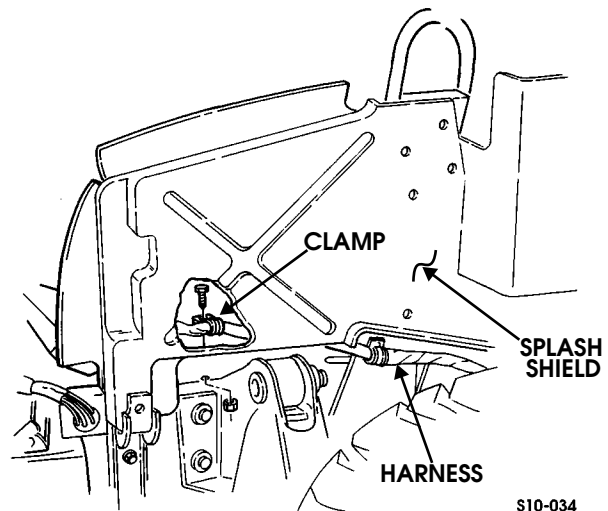

Figure 10-101: Wiring Harness Clamp Location
7. Remove nut and lockwasher assembly and screw securing harness and clamp to splash shield (Figure 10-101).
2. Secure harness and clamp to splash shield with screw and nut and lockwasher assembly (Figure 10-101).